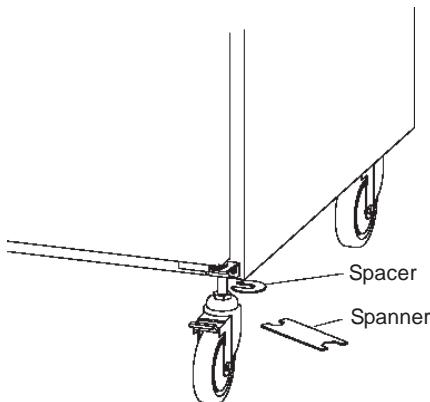

Fig. 4
- 6) Level the refrigerator/freezer in both the left-to-right and the front-to-rear directions. To adjust the height of the unit, insert the Spacers (accessory) into the Caster joints. Use the Spanner (accessory) to loosen or tighten the Casters. After making the unit level, tighten the Casters securely. Lock the stoppers of the front Casters. See Fig. 4.